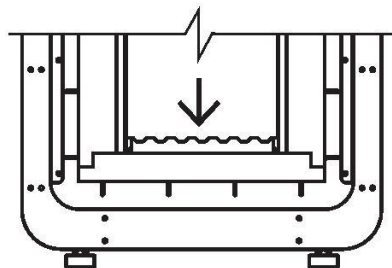

Fig. 3
8.2 It is recommended to clean the outer surface of the oven only in the morning hours (before starting work) with a damp cloth, at least every 3 days. The inner chamber requires ash removal as it accumulates on the lower plate. To remove ash, remove the lower plate (Fig. 3) and sweep the ash off with a dry cloth.